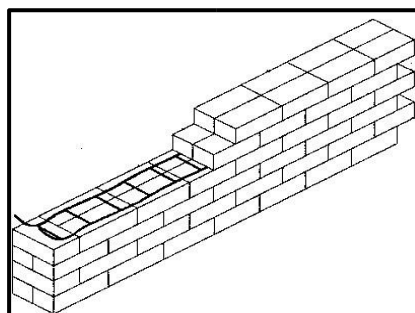

FIGURE 3.4
3.4 Answer the following questions with regard to the wall construction in **FIGURE 3.4**.